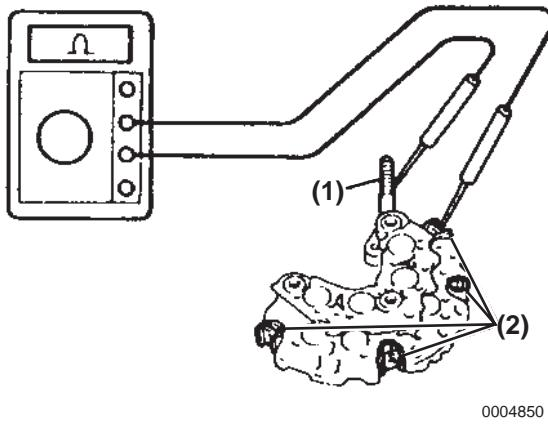

Figure 11-25
1. Check the positive rectifier. Connect one of tester probes of an ohmmeter to the positive (+) terminal (**Figure 11-25, (1)**) and the other probe to the rectifier terminal (**Figure 11-25, (2)**).